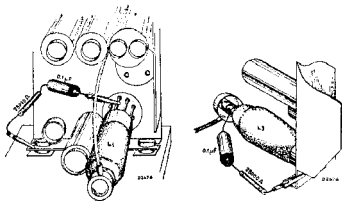

Fig. 3.
6. De-tune the first I.F. circuit by connecting 25,000 ohms and 0.1 μ F between the anode of L1 and chassis. (Fig. 3.)
8. Remove condenser from first I.F. circuit and de-tune the second I.F. circuit by means of 25,000 ohms and 0.1 μ F connected between control grid of L3 and chassis. (Fig. 3.)
3. De-tune first I.F. circuit by connecting 25,000 ohms + 0.1 μ F between anode L1 and chassis. (Fig. 3.)
III. Apply modulated I.F. signal (via 32,000 $\mu\mu\text{F}$) (Fig. 3) to grid 1 of L1.